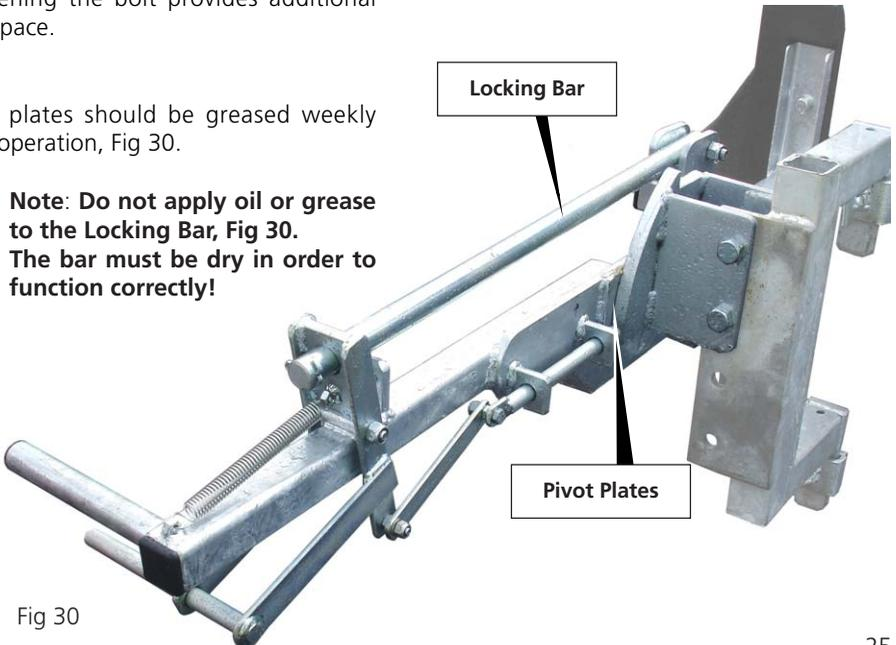

Fig 30
- Pivot plates should be greased weekly during operation, Fig 30.
**Note: Do not apply oil or grease to the Locking Bar, Fig 30. The bar must be dry in order to function correctly!**